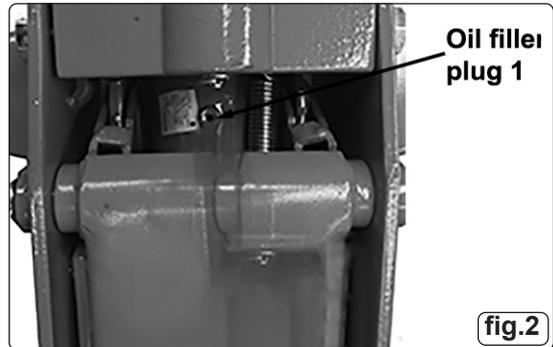

fig.2
- 7.6.1. Fully lower the jack and remove filler plug (fig 2 - 1) The correct level is the bottom of the screw hole. If oil level is low, fill as required. Pump jack 5 or 6 times to expel air. Pump jack up to full height and pour off excess oil before refitting plug.